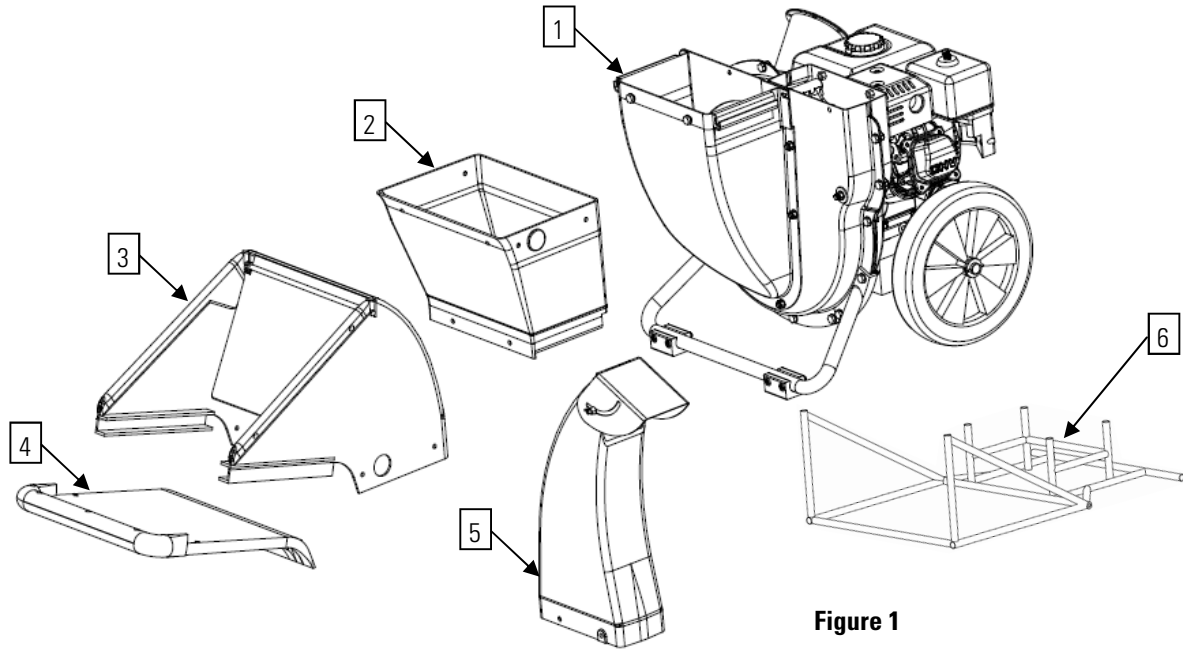

Figure 1
3. Verify all chipper components are present (Figure 1)